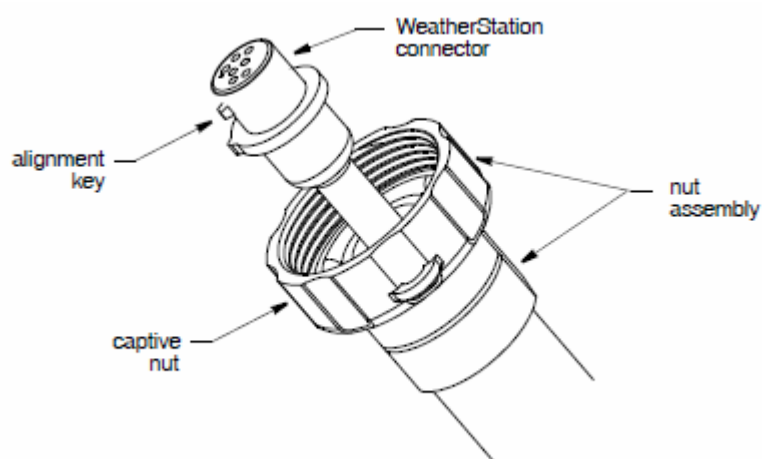

Figure 2-4: Connector
6. With the nut assembly on the cable near the WeatherStation[®] connector, thread the cable through the extension tube (if used), antenna mount, and the cable exit. *Be sure to leave several inches of cable extending beyond the nut assembly (see Figure 2-4).*
9. Grasp the lower housing of the WeatherStation[®] instrument below the blue metal plate. Being sure the alignment tabs are facing forward and parallel to the keel (centerline) of the boat, slide the captive nut upward and screw it onto the base of the WeatherStation[®] instrument (see Figure 2-3 and Figure 2-4).